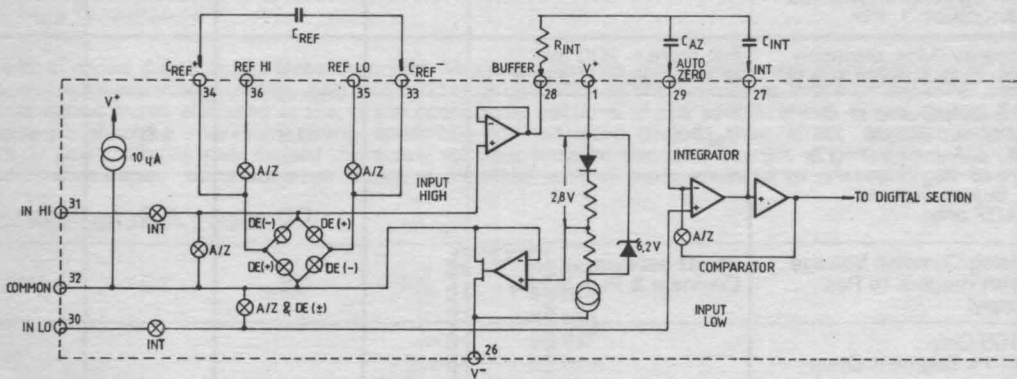

Figure 3: Analog Section of 7106/7107
Figure 3 shows the Block Diagram of the Analog Section for the MMC 7106 and 7107. Each measurement cycle is divided into three phases. They are (1) auto-zero (A—Z), (2) signal integrate (INT) and (3) deintegrate (DE).
Fig.3 7107 with Zener diode reference. Since low T. C. Zeners have breakdown voltage 6.8 V, diode must be placed across the total supply (10V). IN LO may be tied to either COMMON or GND